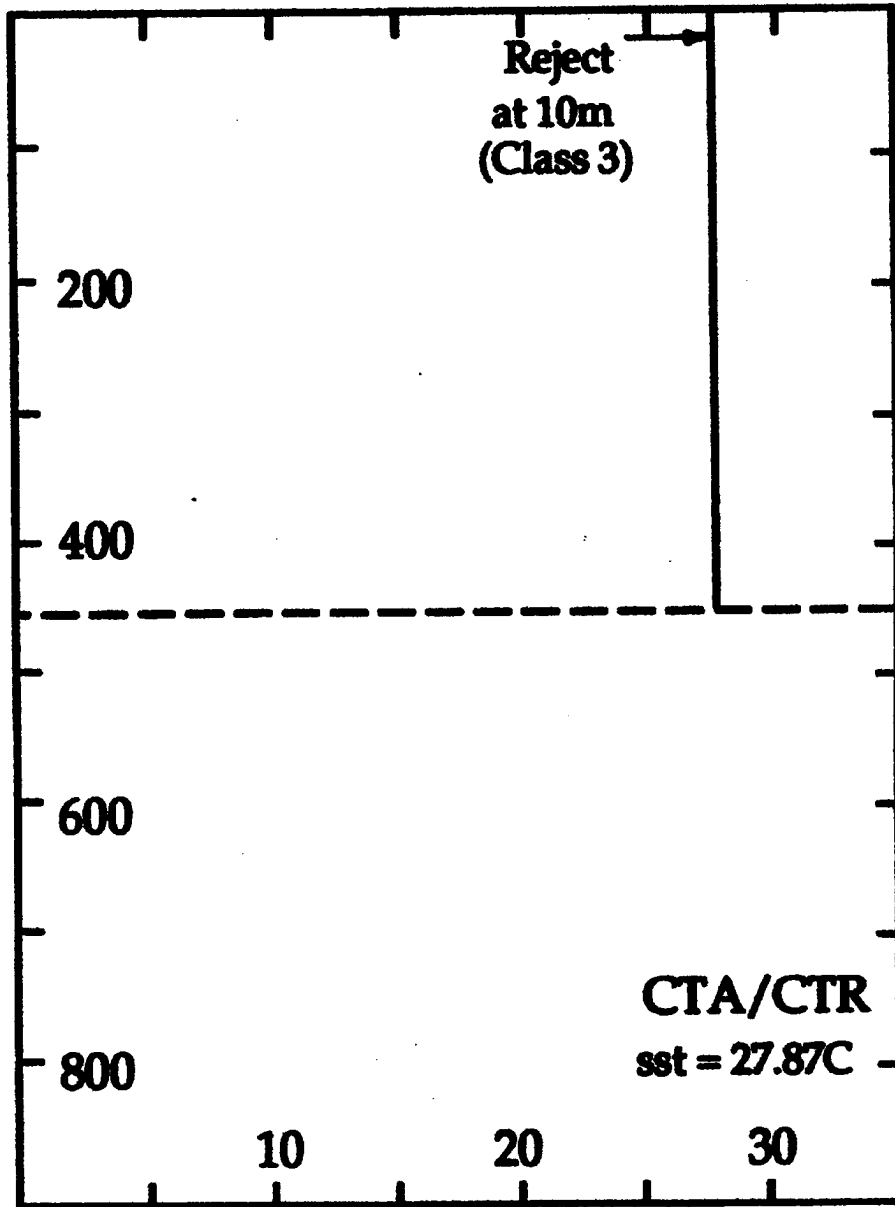

Figure 8b. Constant Temperature Profile Reject (CTR)
- Fig. 8b:** The CTA/CTR flag is used to reject data from the surface if the profile is isothermal and if the surface temperature is inconsistent (invalid) with that of neighboring profiles.